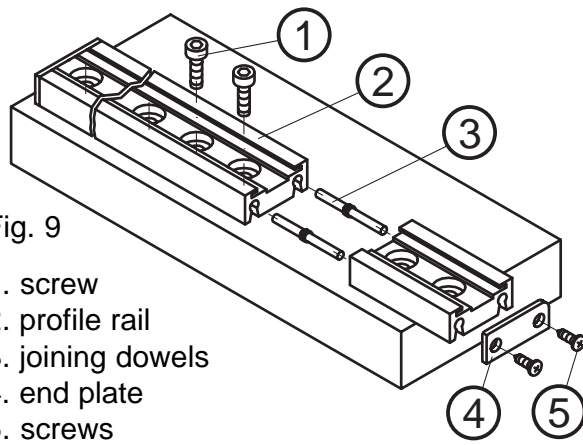

Fig. 9
- Mount profile rail (fig. 9) using the screws provided (1).
- Mount (fig. 9) end plates (4) to profile rail with screws (5).
- Mount (fig. 9) extension using the joining dowels provided (3).